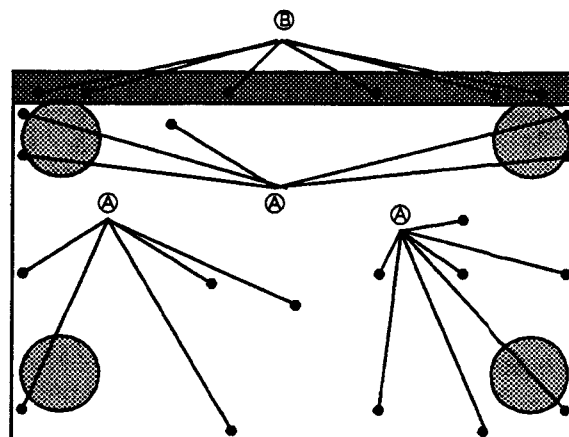
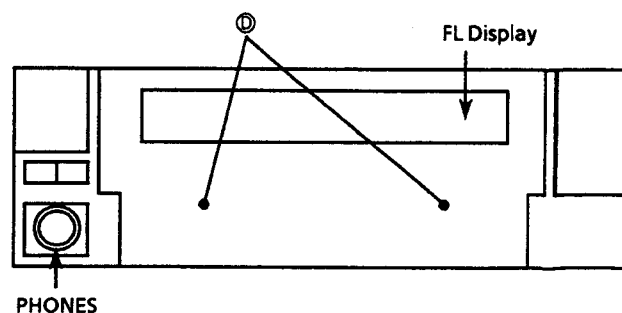

Fig 3. Bottom Cover
Fig 4. Front P.C. Board(ENB-137-2)
■ Removing the bottom cover (Fig 3)
1. Remove 17 screws ① fixing the bottom cover.
■ Removing the front panel (Fig 1, Fig 3)
2. Remove the 3 plastic rivets ③ on the upper part of the front panel and 6 screws ② from the lower part.
■ Removing the System & FL control PCB (ENB-137-2) (Fig 4)
3. Remove the 2 screws ④.